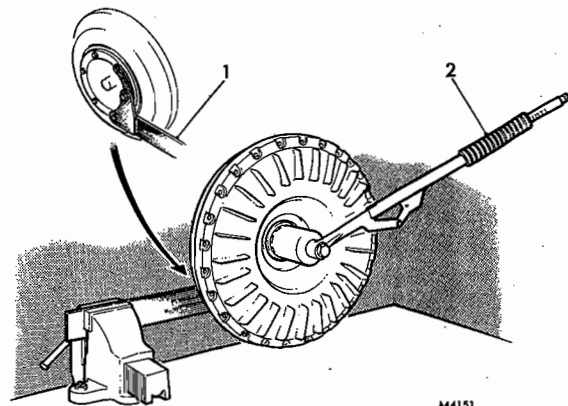

FIG. 4 APPLICATION OF THE SERVICE TOOLS
3. Screw the holding wrench Part LC113A to the input shaft and grip the wrench handle in a vice. Bend back the tab washer and release the ring nut using spanner LC154, Fig. 4.
1. Fit the input shaft (3) to the runner, tighten setscrews (15) and lock with tab plates.
2. Fit the coupling spigot (2) to the input shaft.
4. Position the impeller over the runner and using a suitable tube with a bore big enough to pass over the threads on the coupling shaft, press the bearing (14) onto the shaft.
5. Fit the tab (10) and ring nut (9) and using both service tools as described during the dismantling procedure, Fig. 4, tighten the ring nut to correct torque, see Data.
6. Fit the pump drive gear (7), to the line previously scribed.